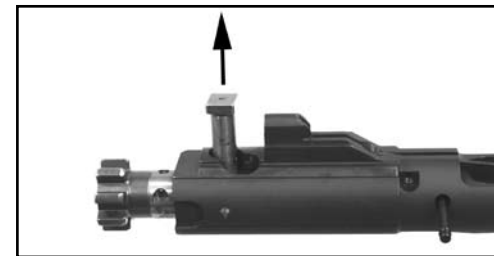

Fig. 41 – Remove the Cam Pin
- e. Lift up and remove the cam pin from the shaft of the bolt head (Fig. 41).